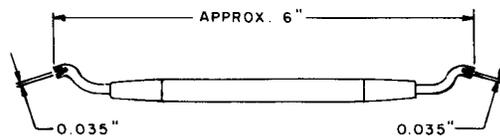

Fig. 15—579A Adjuster Tool
2.15 **579A:** The 579A tool (Fig. 15) is an adjuster used for adjusting vertical unit multiple strips of the 300-, 304-, 324-, and similar-type switches.